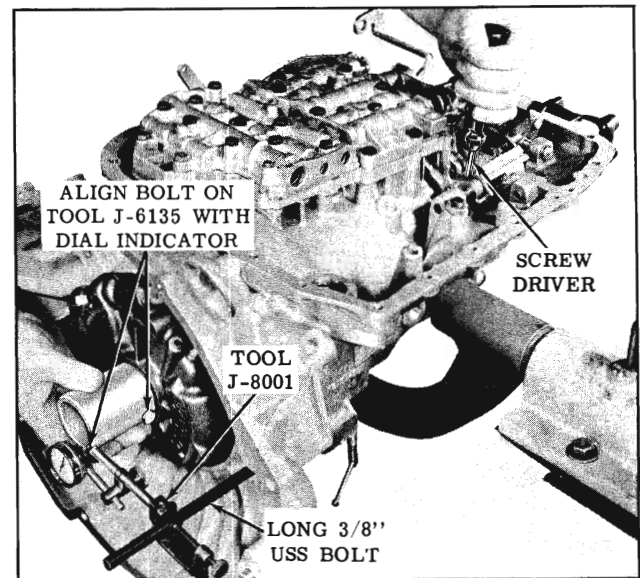

Fig. 3-223 Checking Front Unit End Play
- a. Remove 1 case cover to case attaching bolt and install tools as shown. (Fig. 3-223)
- b. Position a screwdriver through case, behind the flange on the output shaft. (Fig. 3-223)